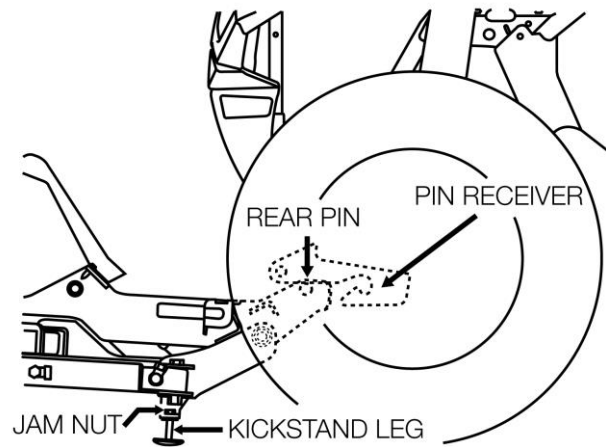

Figure 12. Kickstand Adjustment
4. Rotate the Kickstand Leg (9A/B) to adjust the height of the plow system up or down until the Rear Pin of the Coupler contacts the bottom flat portion of the Pin Receiver of the Undercarriage as shown in Figure 12. (If additional height is required, install the longer Kickstand Leg included with the Plow System).